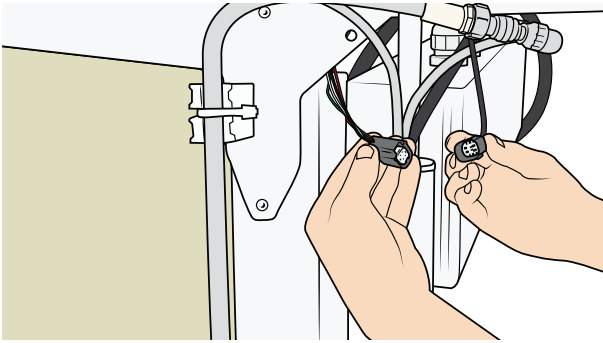

Figure 31
13. Cut the cable ties and disconnect the Scale connector. See Figure 31.